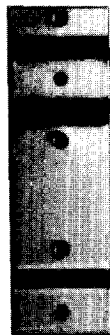

Fig. 1 Track Mounting Bracket
- (a) Mount track mounting bracket (Fig. 1), one on each side of compartment, using .25" x .50" (6.35mm x 12.7mm) self tapping screws in mounting holes at 16.812" (427.025mm) behind datum "B".